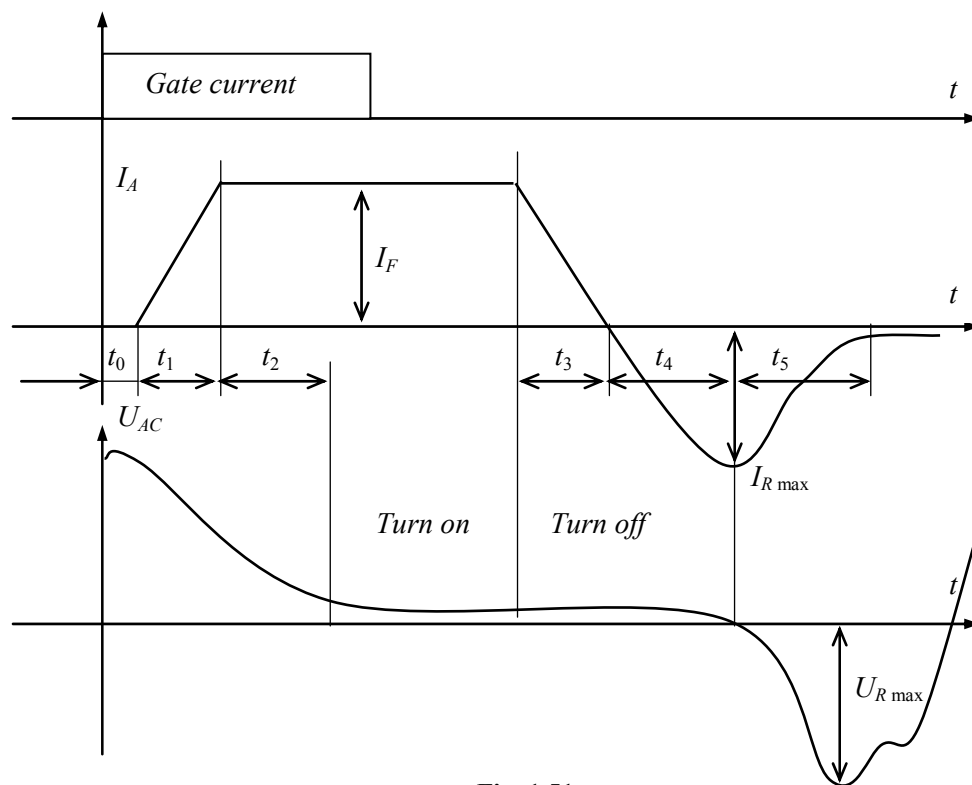

Fig. 1.51
**Transients.** Fig. 1.51 reflects the current and voltage transients of a thyristor when it turns on after the gate pulse appears and turns off after the current direction changes. During the thyristor opening process, the anode current will be distributed through the full crystal surface at the speed near  $100 \mu\text{m}/\mu\text{s}$ . The current distribution is not homogeneous. The local overloading is possible; therefore, the growing rate of forward current  $I_F$  should be limited by hundreds of amperes per microseconds. For the best control of the thyristor firing process, the gate electrode has a specific spreading shape. The turn-on process includes three time intervals – the turn-on delay  $t_0$ , the current rise time  $t_1$ , and the current spreading time  $t_2$ .
Commonly, the turn-on process of the GTO thyristor is the same as for the rectifier thyristor. The process includes the turn-on delay, the current rise and the stabilizing interval, similarly to those shown in Fig. 1.51. The switching speeds are in the range of a few microseconds to 25  $\mu$ s. It is a sufficiently fast switching time. A switching frequency range is a few hundred hertz to 10 kHz. The on-state voltage drop (2 to 3 V) of the GTO thyristor is higher rather than that of the SCR.